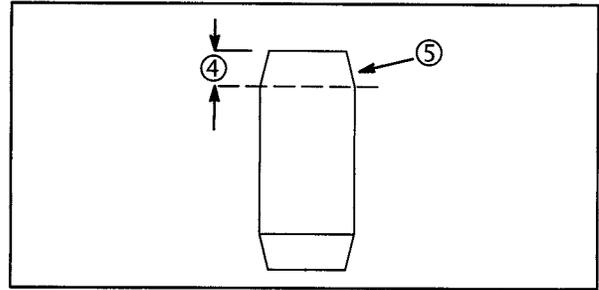

Fig. 12
4. Grind off the taper (5), approximately $1/8$ " (3 mm) (4), from one end of new roll pin as shown, **Fig. 12**.